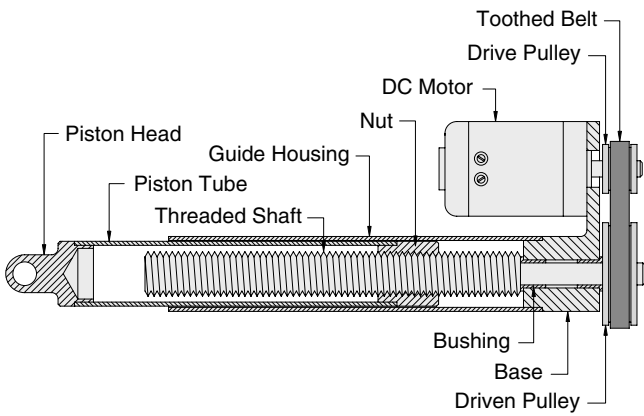

Figure 2-23 Motorized Screw Thread Actuator
In addition to their fastening value, screws are used extensively for motion control. Figure 2-23 shows a sectional view of a motorized screw thread actuator. In this case a piston, with a threaded nut at its base, is inserted into a guide tube. When the threaded shaft is turned, the piston moves in and out, depending on the rotation. The threaded shaft is driven by a toothed belt connected to a direct current (DC) motor. By reversing the polarity of the motor, the actuator can be